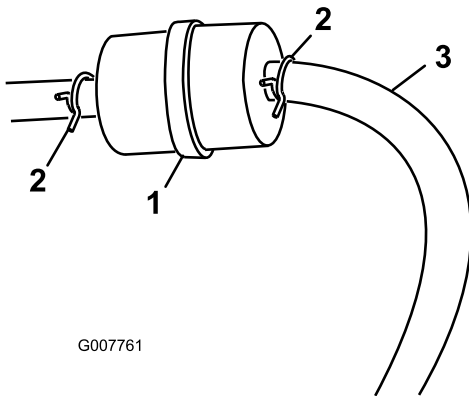

Figure 22
3. Squeeze the ends of the hose clamps together and slide them away from the filter (Figure 22).
5. Install a new filter and move the hose clamps close to the filter (Figure 22).
3. Loosen the hose clamp at the fuel filter and slide it up the fuel line away from the fuel filter (Figure 22).
4. Disconnect the fuel line from the fuel filter (Figure 22).
Note: Allow fuel to drain into a fuel container can or drain pan (Figure 22).
5. Install the fuel line onto the fuel filter. Slide the hose clamp close to the fuel filter to secure the fuel line (Figure 22).